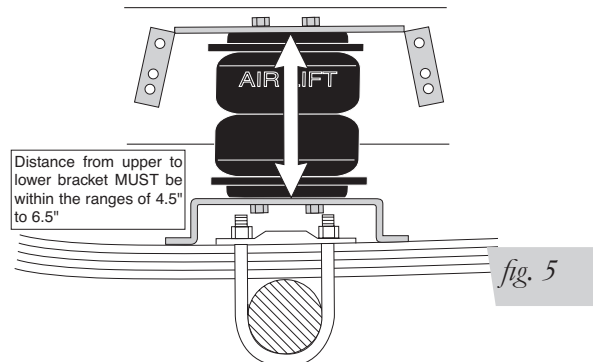

fig. 5
1. Set the assembly on the leaf spring over the axle. The upper and lower brackets must be positioned with 4.5" to 6.5" between the brackets at normal ride height (Figure 5).